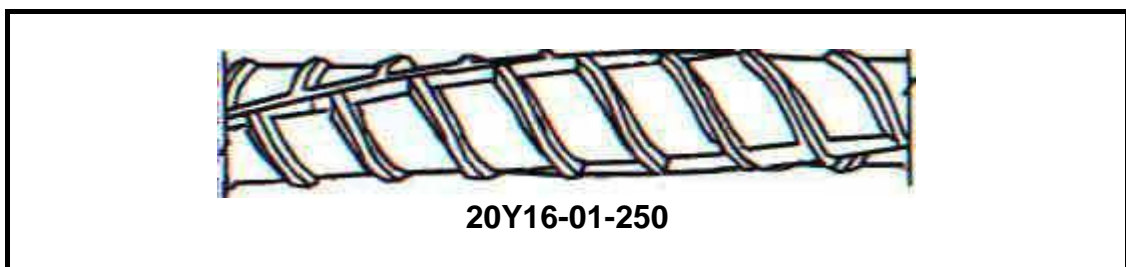

FIGURE 6.4
- 6.4 Answer the following questions with regard to the bar code in FIGURE 6.4.